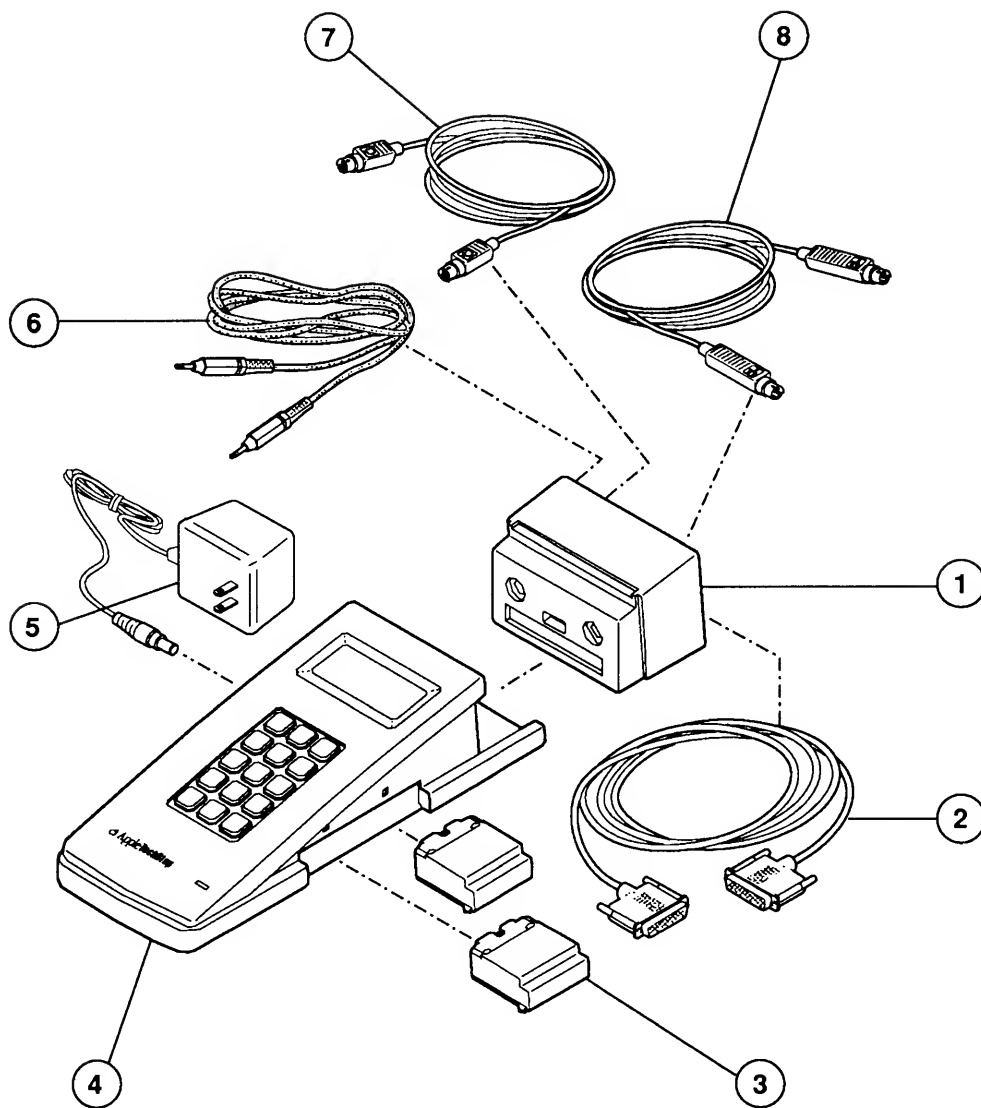

Figure 1 Apple TechStep
IPL.3 Apple TechStep (Figure 1)
□ Apple TechStep (Figure 1)